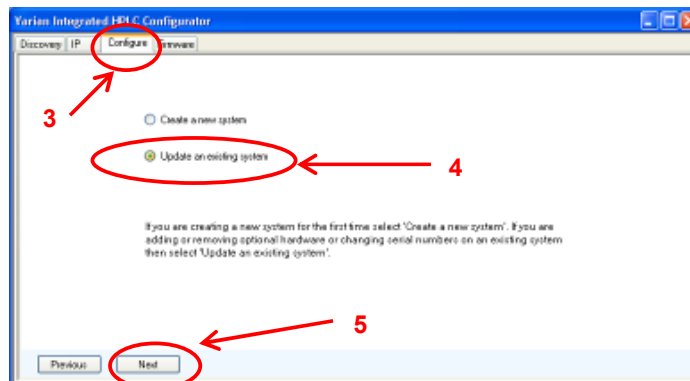

Figure 22: Configure page of the Service Configurator
3. Once the system has been selected you will be able to choose the *Configure Tab* (3). Select the *Update an existing system* option (4), and then select next (5) as shown in Figure 22.